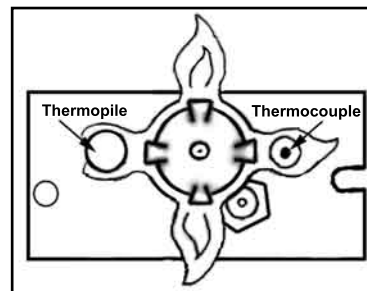

Figure 2. Pilot Flame
**NOTE:** Make sure the pilot light completely engulfs the thermocouple assembly (Figure 2)